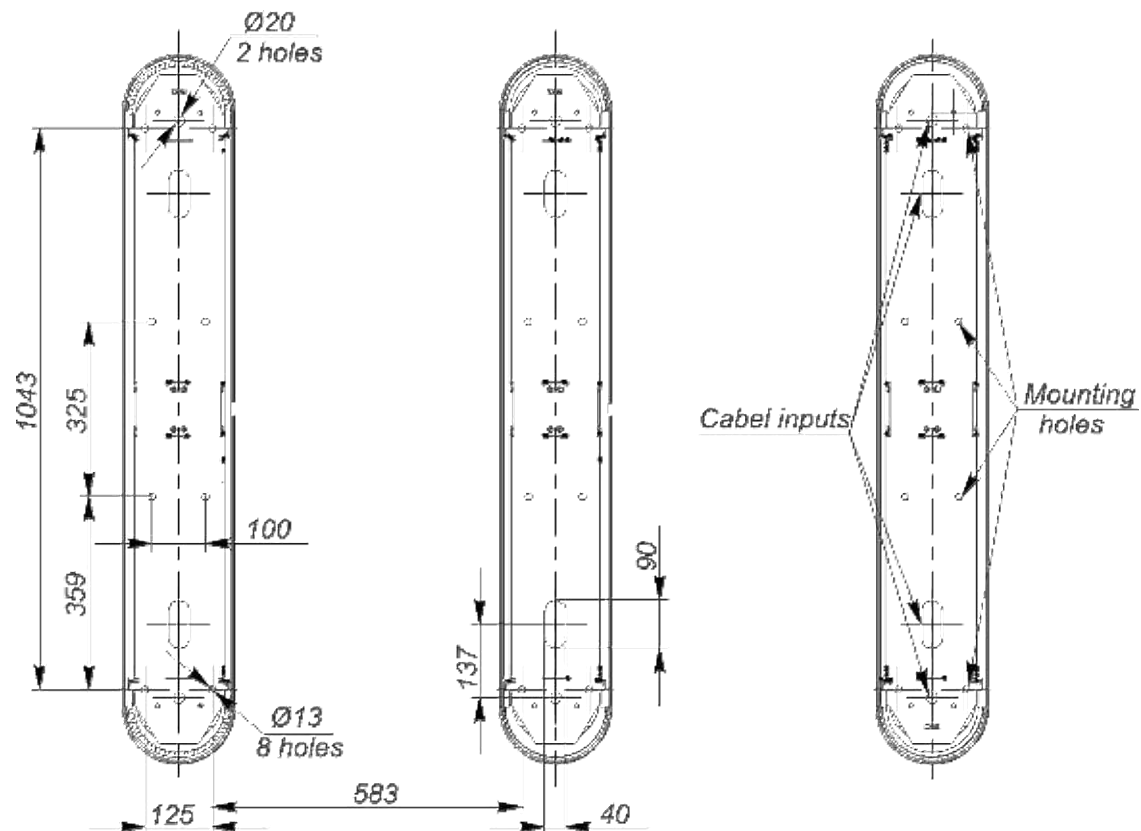

Fig. 18 – Installation dimensions of the "Sweeper-G-BM-1" and "Sweeper-G-BM-2" turnstiles set
6. - Fixation holes at the turnstile bottom plate to be aligned with the prepared surface holes according to the marking in Fig.18;